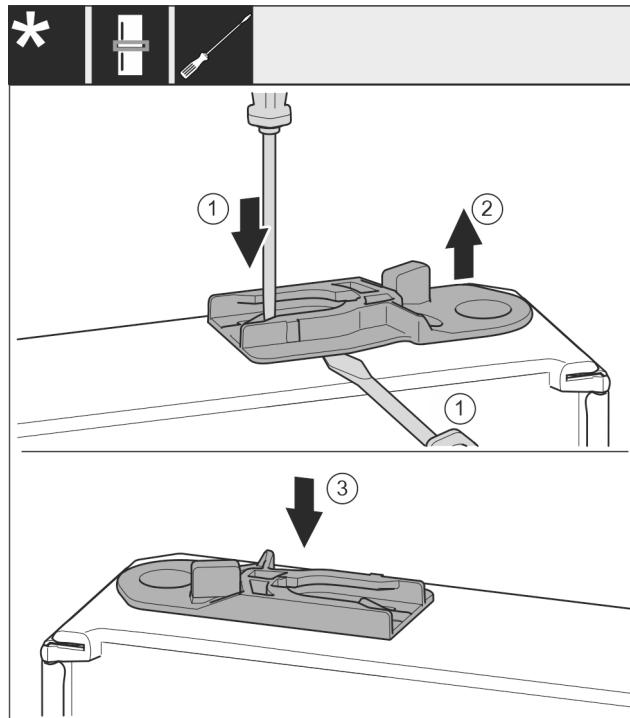

Fig. 36
- ▶ Pull out the guide bush: Press the lug with a slotted screwdriver and, at the same time, insert the slotted screwdriver under the guide bush. Fig. 36 (1, 2)
- ▶ Slide the guide bush included in the scope of supply to the other side of the housing. Fig. 36 (3)